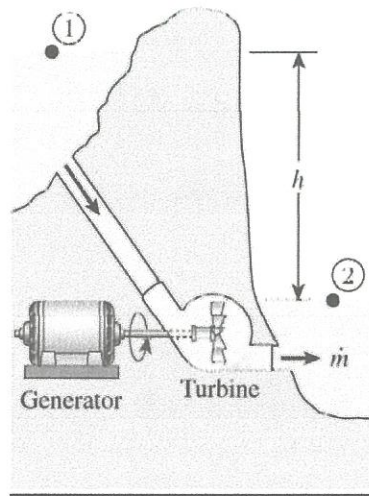

Figure Q1 (d)
- Q1** (a) Give **TWO (2)** statements of adiabatic process apply in thermodynamics system. (4 marks)
- (d) The water in a large lake is to be used to generate electricity by the installation of a hydraulic turbine-generator at a location where the depth of the water is 50 m as shown in **Figure Q1 (d)**. Water is to be supplied at a rate of 5000 kg/s. If the electric power generated is measured to be 1862 kW and the generator efficiency is 95 percent, determine